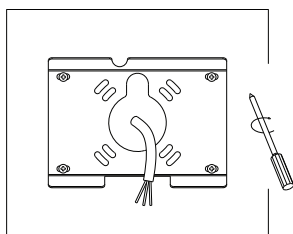

Figure 5
1. Align mounting bracket with the J-Box. Secure in place with 4 provided screws. (Figure 5)